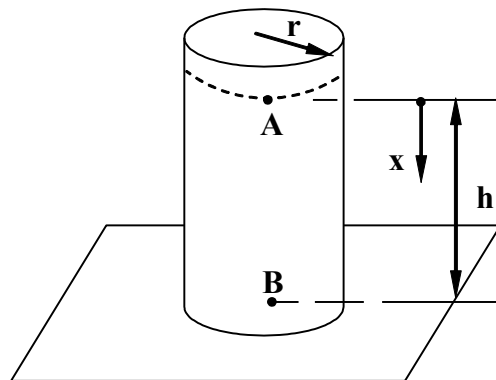

Figure 11
11. Figure 11 shows a thin-walled drinks can of thickness t , standing upright on a table. The weight of the can is negligibly small.